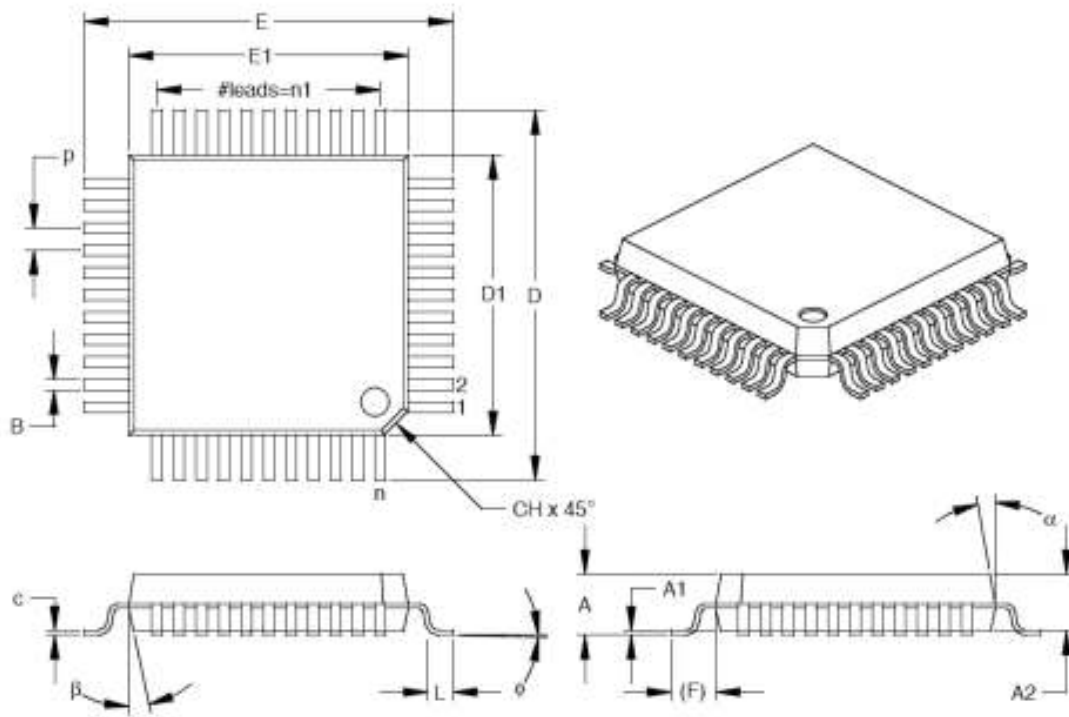

Figure 19. 44-Pin QFP Physical Dimensions
- 44-Pin QFP Package: Figure 19